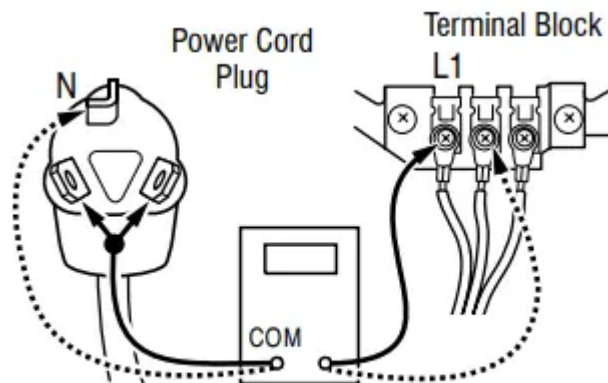

Figure 4 - Plug-to-terminal connections for electric dryer
3. With an ohmmeter, check for continuity between the neutral (N) terminal of the plug and the center contact on the terminal block. See figure 4. > If there is no continuity, replace the power cord and test the dryer. > If there is continuity, go to step 4.
4. In a similar way, check which terminal of the plug is connected to the left-most contact on the terminal block and make a note of it. This will be L1 (black wire) in the wiring diagram. See figure 4.